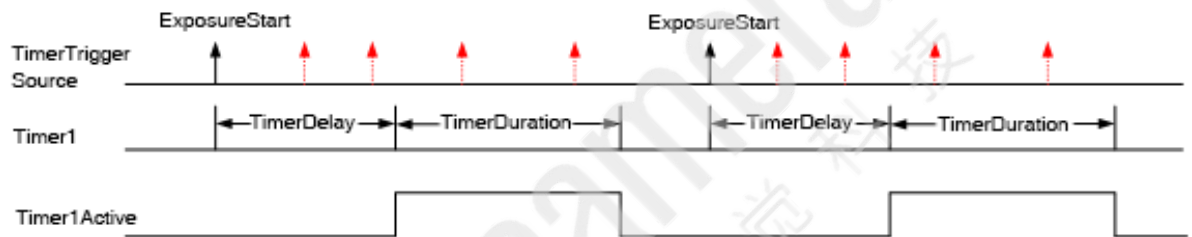

Figure 8-66 The relationship between *Timer1Active* and the *ExposureStart* signal
- From the start of the timer to the full output of *Timer1Active*, this process will not be interrupted by the *ExposureStart* signal, and *Timer1Active* must be completely output to start timing according to the next *ExposureStart* signal. As shown in Figure 8-66, the red *ExposureStart* signals are ignored.